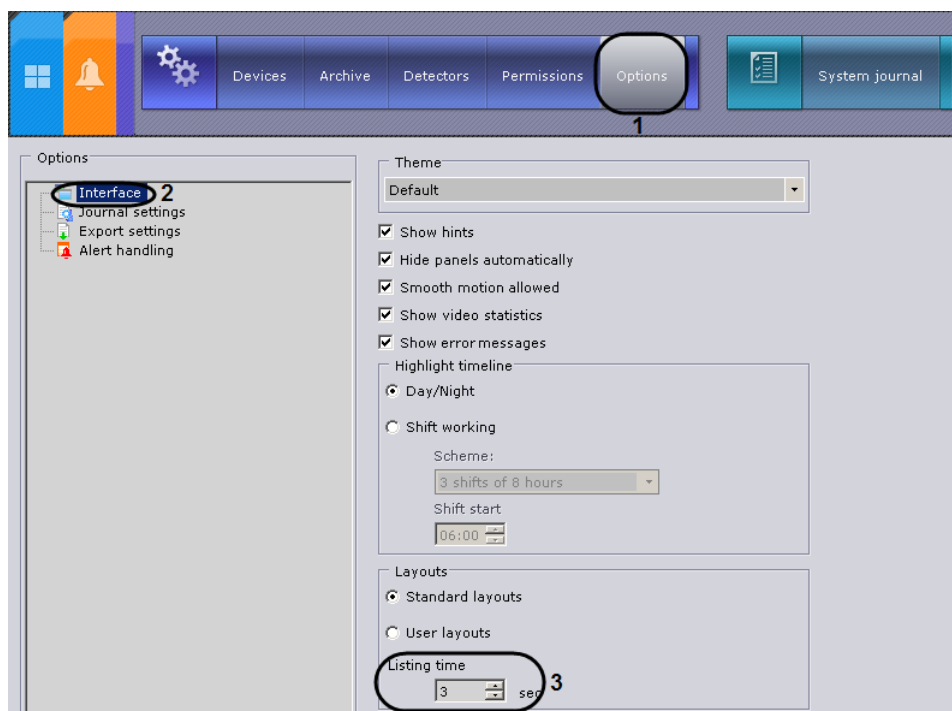

Fig. 6.8—2 Configuring slideshow mode
1. Go to **System settings**⇒**Options**⇒**Interface** (Fig. 6.8—2, 1-2).
2. Set the slideshow dwell-time in seconds in the **Layouts** configuration group (see Fig. 6.8—2, 3).